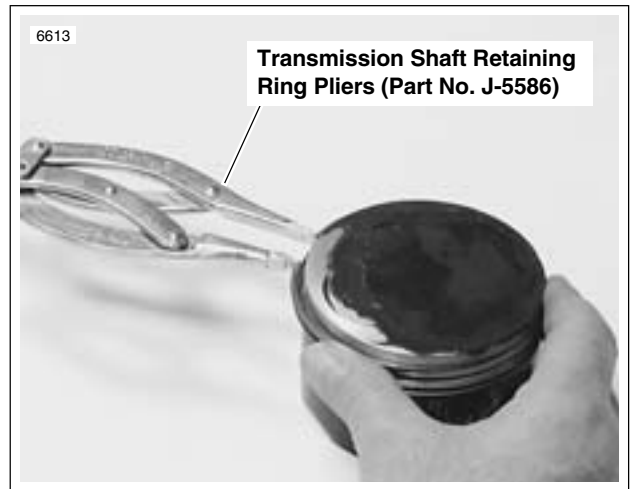

Figure 3-37. Installing Piston Rings
2. See Figure 3-37. Apply engine oil to piston grooves. Use TRANSMISSION SHAFT RETAINING RING PLIERS (Part No. J-5586) to slip compression rings over piston into their respective grooves. Be extremely careful not to over expand, twist rings or damage piston surface when installing rings.